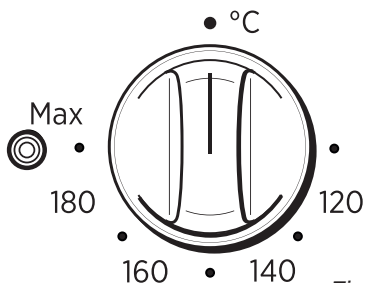

Fig. 1.5
- Turn the thermostat knob to the temperature required (fig. 1.5); the temperature indicator light comes on.